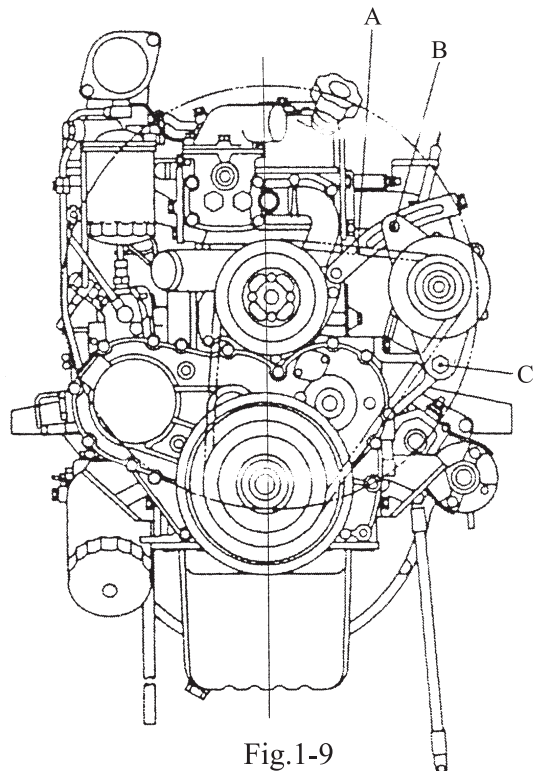

Fig.1-9
(3) Adjust the belt of fan and tighten if it is loosened Refer to Fig.1-9.